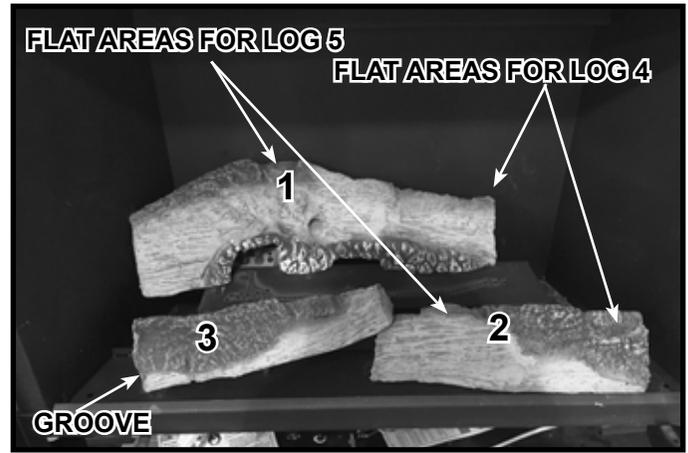

Figure 6.
**Log #3 (SRV2401-703):** Locate the groove on the left side of Log 3. Place the log on the tab that was bent up in Step 1 and set the right side of the log on top of the flat area on Log 2. Refer to Figure 5 for tab and flat area. Figure 6 shows Log 3 placed correctly.
**Log #6 (SRV2397-705):** Locate the flat areas on Log 1 and Log 2, highlighted in Figure 6. Place log 6 onto the flat area of Log 2 with the bark facing the front of the appliance. Rest the back of Log 6 onto the flat spot on the far right of Log 1. Log 6 will rest against the back of the appliance.